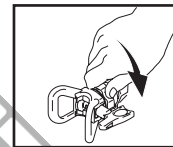

Fig. 19
4. Screw assembly onto gun. Tighten. (Fig. 19)